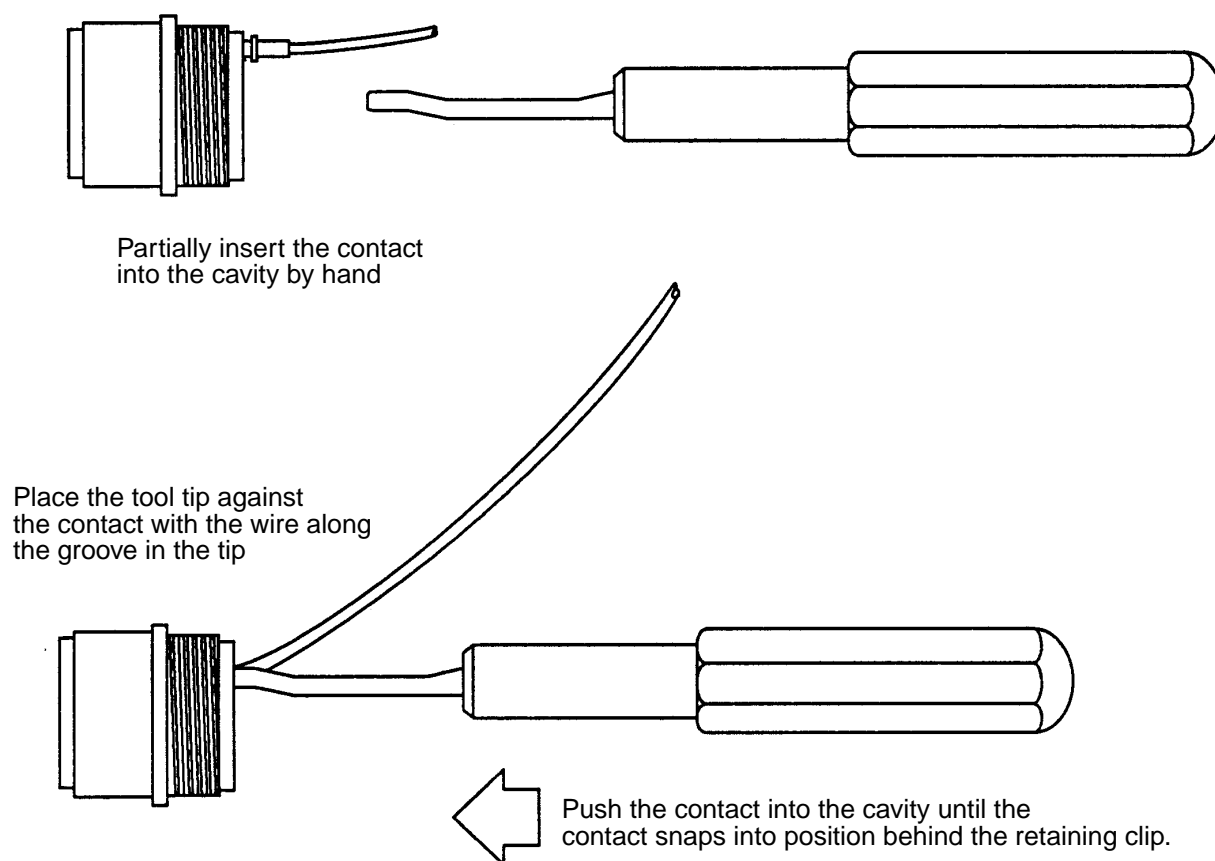

Figure 4 - Installation of Front Release Contacts (typ.)
5.4 Insertion of Front Release Crimp Type Contacts (see Figure 4)